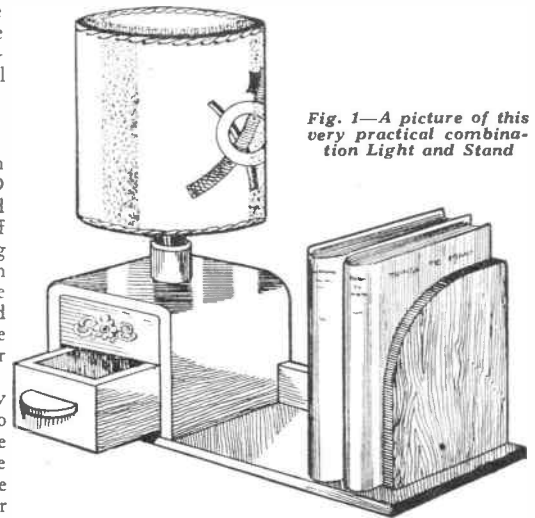

Fig. 1—A picture of this very practical combination Light and Stand
A clean hole is next made in the centre of the top (D) to admit the brass screw shank of the electric lamp fitting. Or, if desired to raise the latter a trifle to get added height to the shade, a base consisting of a round piece of wood with a hole up the middle may be fixed on as shown in Fig. 1. The electric fitting can then be screwed into this added part.